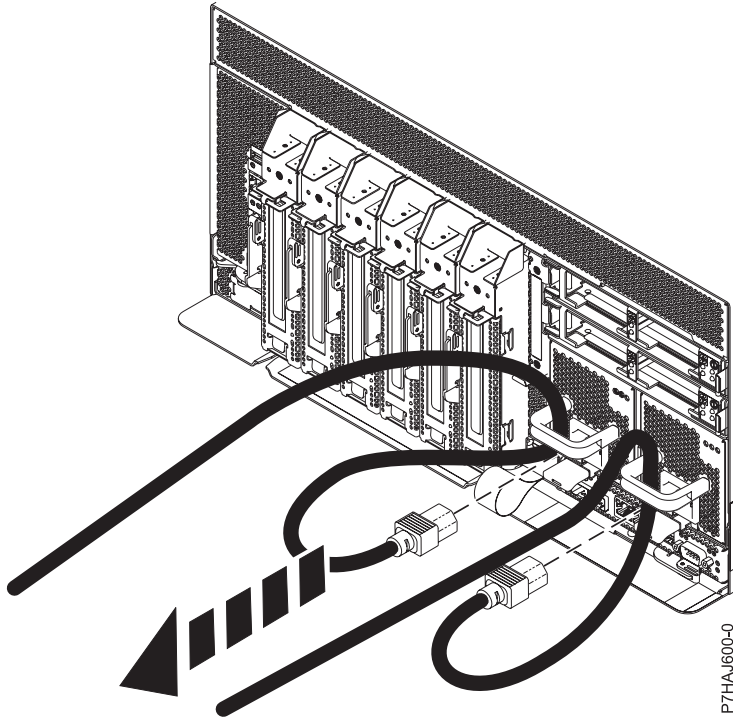

Figure 12. Removing the power cords
3. Disconnect the power cords from the system unit as shown in Figure 12 on page 24.